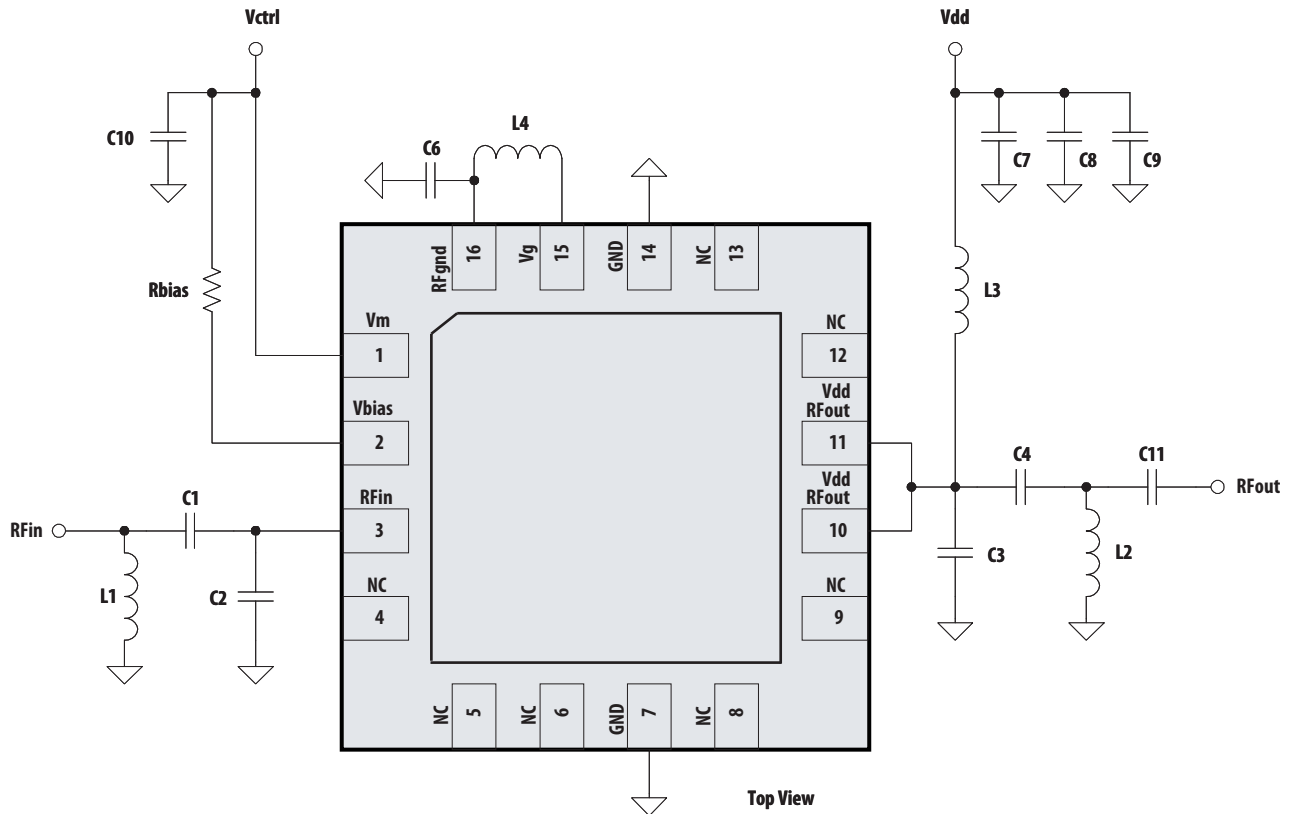

Figure 6. Demo board and application schematic
4. Measurements at 900MHz obtained using demo board described in Figure 6 and 7.